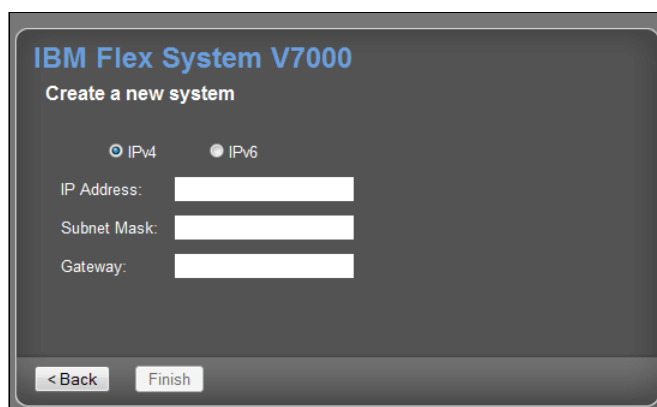

Figure 4-7 Create new Storage Cluster
6. If you choose to create a new system, it will ask for network information, as shown in Figure 4-7. Select whether you are using an IPv4 or IPv6 management IP address and type in the address (you can use either DHCP or static address that was assigned). The subnet mask and gateway will already have defaults listed, which you can edit.